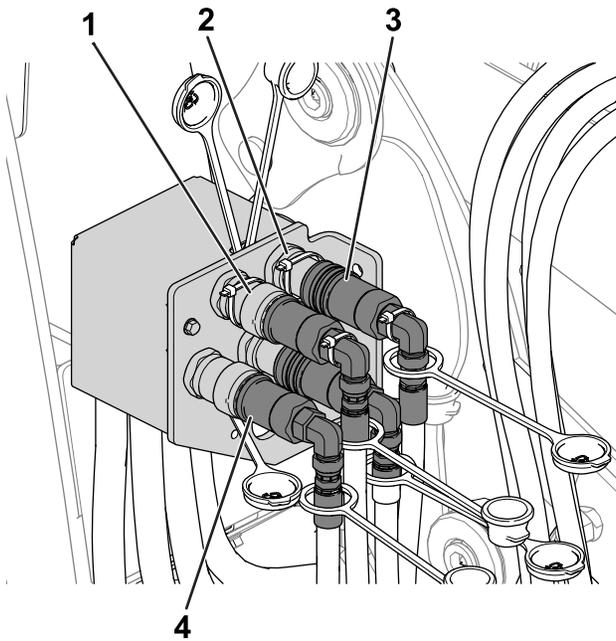

Figure 50
- Perform the following steps to disconnect the hydraulic couplers (Figure 50):